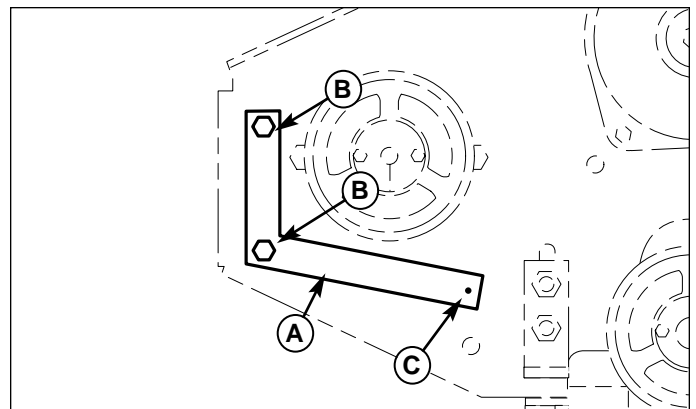

Figure 3. Drill Template Installation
1. Remove the 3/8" x 1" bolts and 3/8" flange nuts from the spring anchor drill template and fasten to the pump plate using the bumper mount holes (see Figure 3).